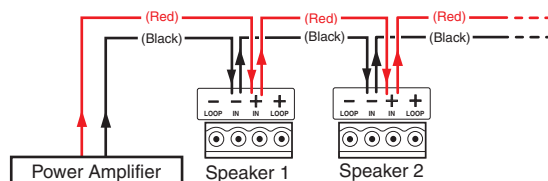

Figure 14. Wiring Multiple Speakers in Parallel
- **Wiring Multiple Speakers in Parallel:** Connect the wires to the captive screw connectors of the speakers, as shown in figure 14. Be sure to tighten the screws.